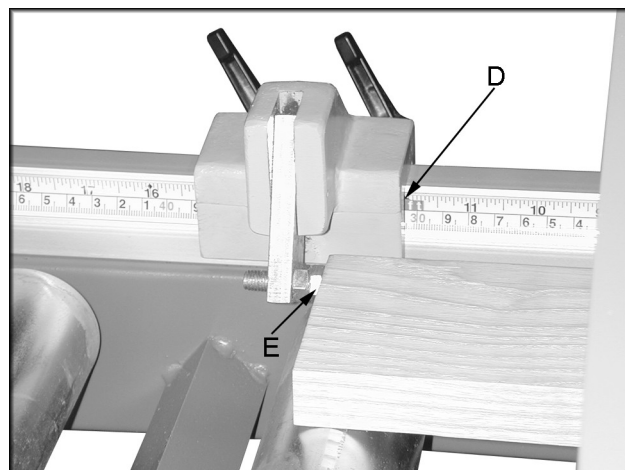

Figure 15
1. Set the edge of the stop so that it reads 12" (D, Figure 15).
2. Feed a piece of scrap wood through the saw until it rests against the stop bolt (E, Figure 15). **Note:** Make sure the workpiece is against the saw fence.